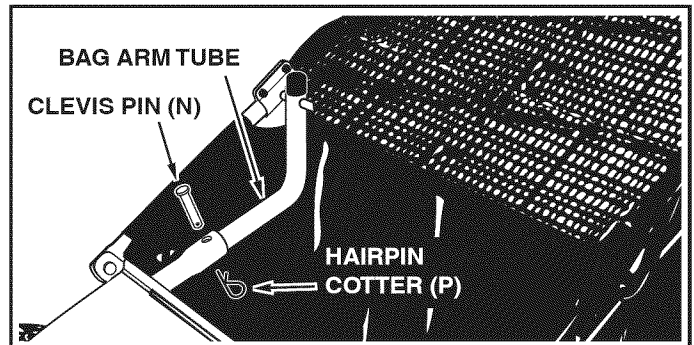

FIGURE 18
- To attach the hopper bag to the sweeper, slide the ends of the bag arm tubes into the ends of the hitch tubes and secure with two clevis pins (N) and hairpin cotters (P). See figure 18.